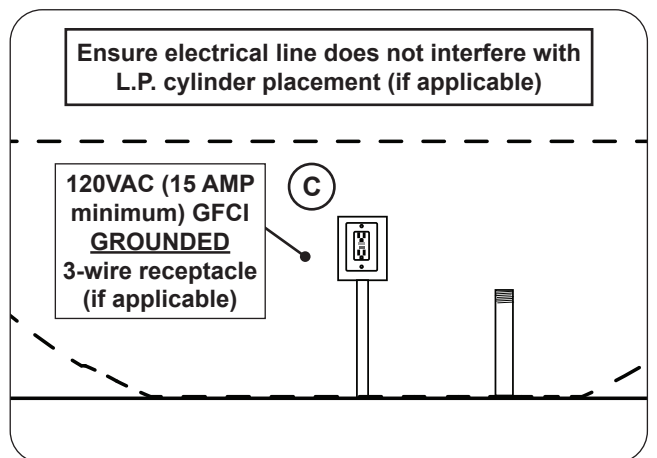

Fig. 27-2 Route electrical (if applicable)
1. Wire the receptacle into the area that the unit will rest over (see Fig 27-2, C).